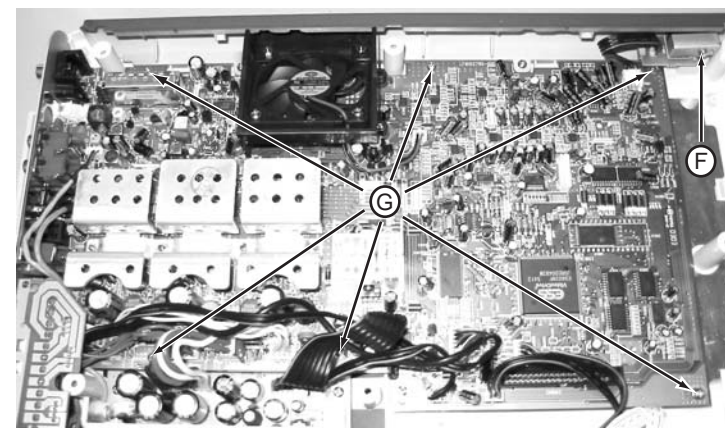

Figure 9
1) Loosen 6 screws "G" on the top of main board as shown in figure 9.